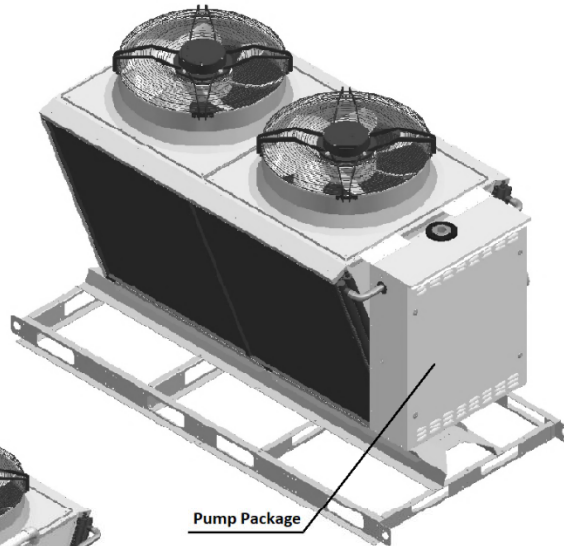
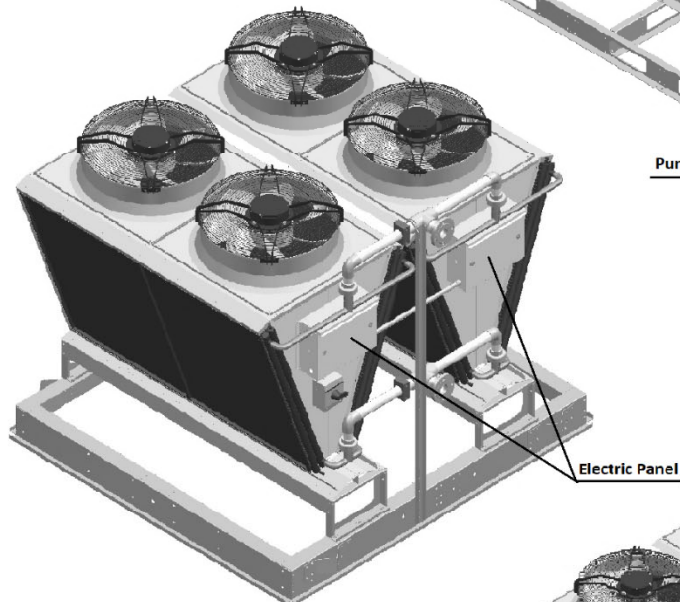
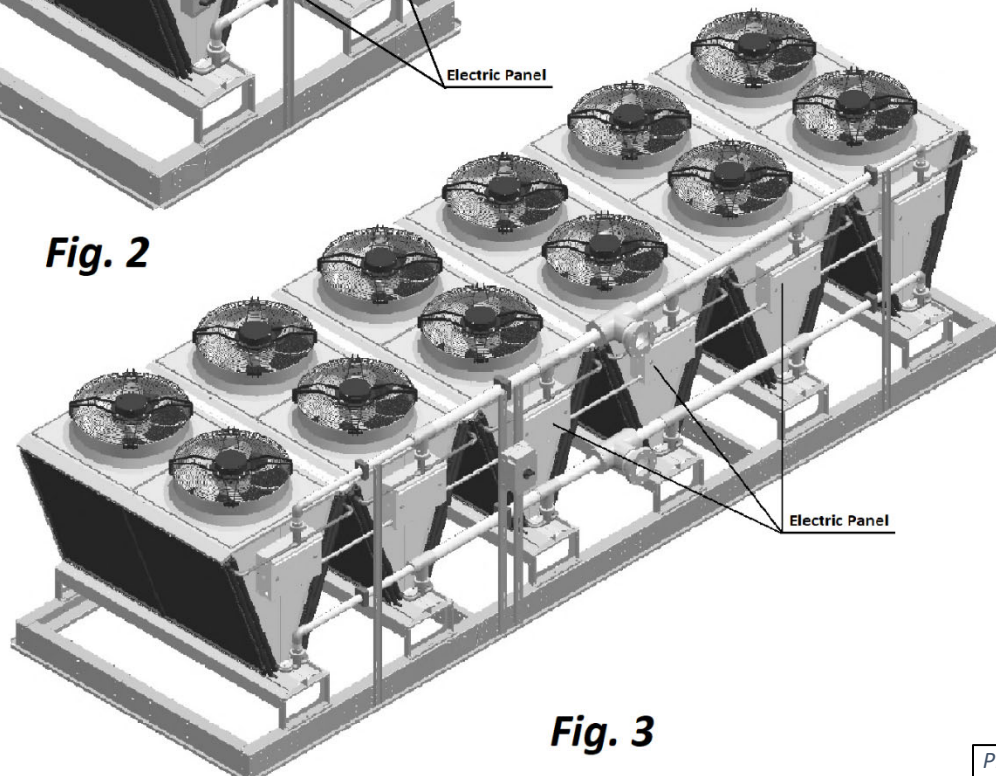

Fig. 1
Fig. 2
Fig. 3
For two-compressor dehumidifier, compressor compartment may have side (Fig.1; same as dehumidifier, shown on Pic. C.1) or end (Fig.2) location. End location is mostly used in higher capacity dehumidifiers.
Three- and four-compressor dehumidifiers (Fig.3 and Fig.4, respectively) normally have end location of the compressor compartment.
- Fluid cooler NG-V-12 (Pic.C.4, Fig.1) is composed of one such block; NG-V-22 (Fig.2) composed of two such blocks etc. largest single fluid cooler, NG-V-62 (Fig.3) composed of six of them.
As an option, each block of fluid cooler could be equipped with the pump package (as shown on Fig.1 for NG-V-12).